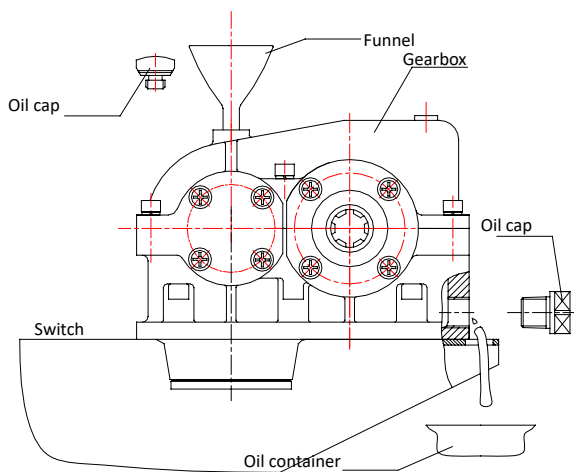

FIG 16.
- Install the filter in the gear case; tighten. Thoroughly clean the surface of the gearbox. (See FIG 16)